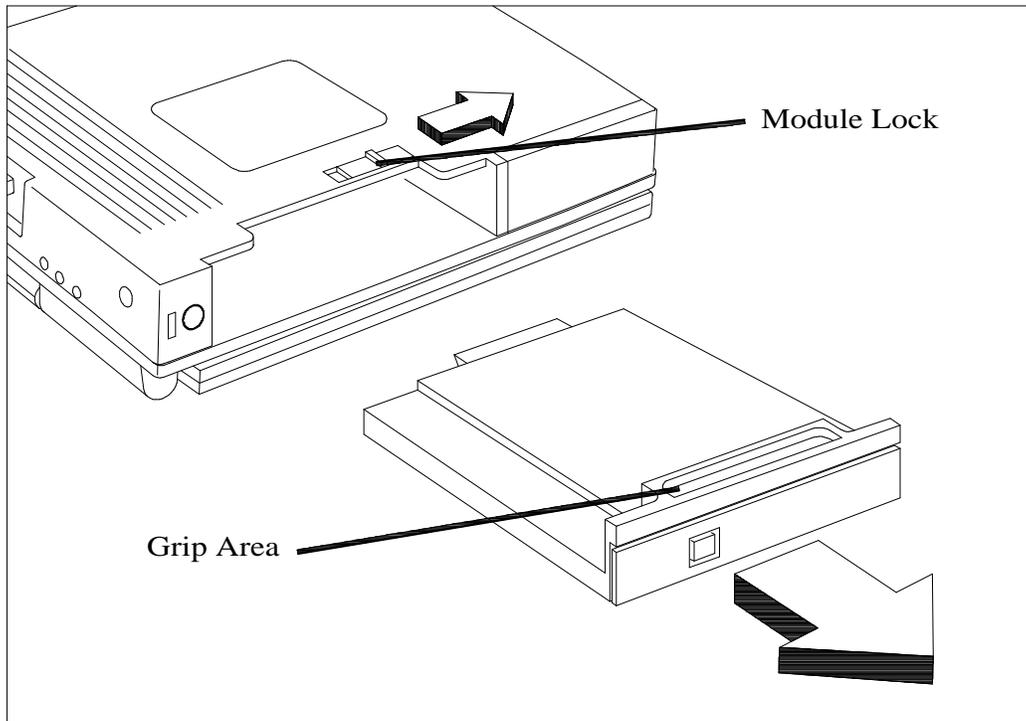

Figure 6-12 Removing/Replacing a 65x Series Module
2. Unlatch the module by pushing the Module Lock (Figure 6-12) toward the unlock icon.